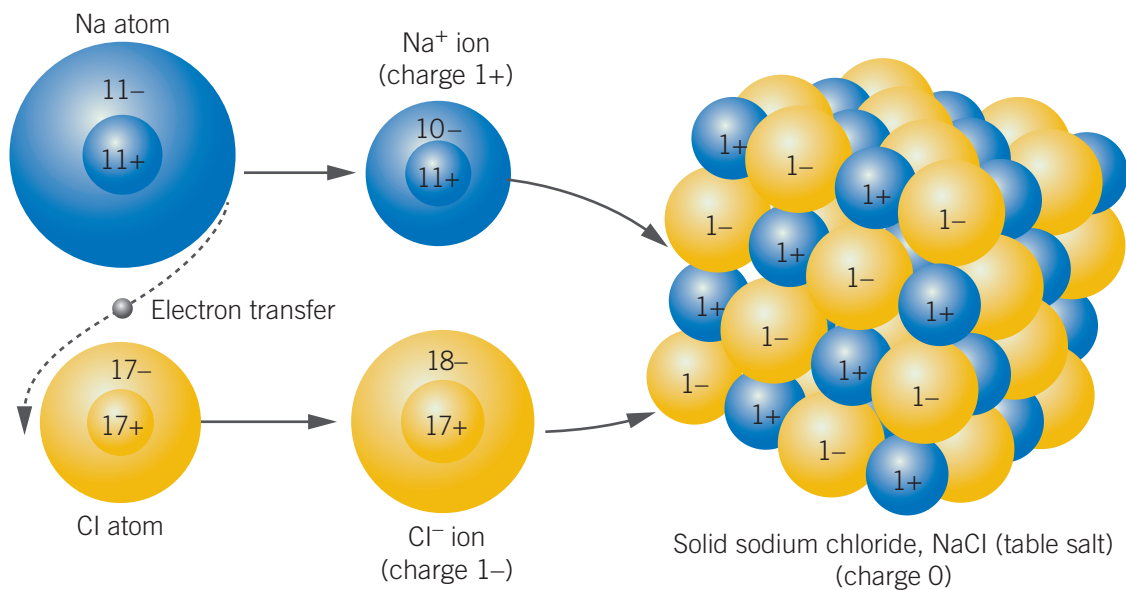

Figure 4A-3 Sodium chloride, or table salt, formed from the combination of alternating sodium and chloride ions
Figure 4A–2 Periodic table indicating the main group elements and the charges of the ions formed by these element's atoms when they lose or gain electrons. Note that both groups 14 and 18 (noble gases) typically do not form ions.
Ionic compounds are substances composed of both positive and negative ions. This occurs when a metal atom loses its electron(s), transferring them to the non-metal atom, which gains the electron(s). The result is a positive metal cation and a negative non-metal anion. These ions then arrange themselves into an overall neutral three-dimensional **lattice** structure of alternating cations and anions held together by strong **electrostatic forces of attraction**, as shown in Figure 4A–3, with sodium and chlorine atoms forming ions that are the basis of sodium chloride. You will recall from Chapter 3A that an electrostatic force of attraction was also established between metal cations and the sea of delocalised electrons in the metallic bonding model. The ionic bonding model will be explored further in Chapter 4B.
Electron transfer diagrams are used to show the path that electrons take when they are lost from a metal atom and gained by a non-metal atom during ionic bond formation, as shown with sodium and sulfur in Figure 4A-4.
Figure 4A-4 The transfer of electrons between sodium atoms and a sulfur atom. Note that as a sodium atom can only lose one electron but sulfur needs to gain two electrons to obtain a full valence shell, two sodium atoms are required.
In Figure 4A–4, sulfur requires two electrons for it to achieve a full outer shell. However, a single sodium atom can only lose (or donate) one electron. Therefore, to balance the overall charge in the formation of this ionic compound, two sodium atoms are required, with each donating a single electron to the sulfur atom, as shown by the arrows. This results in:
- the ionic compound formed having two sodium ions for every one sulfide ion (Figure 4A–4).